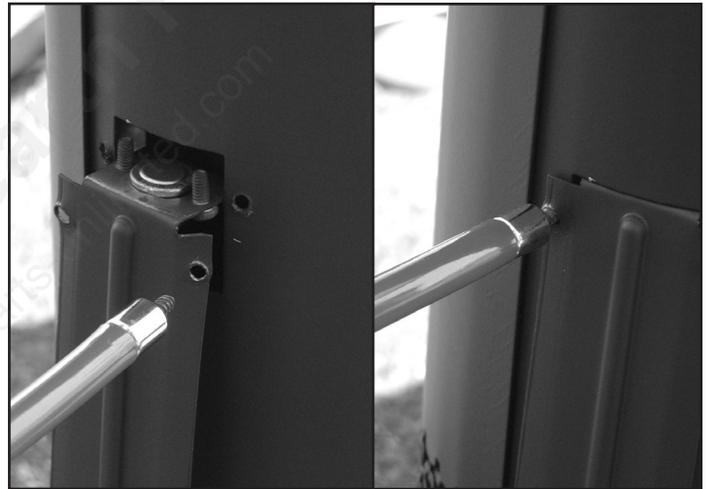

Figure 42: Spill switch installation.
3. Remove the four mounting screws holding the spill switch bracket and remove the bracket (see Figure 42).